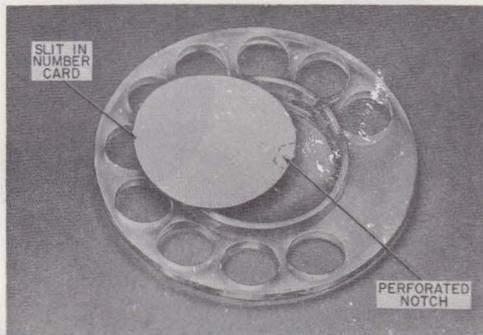
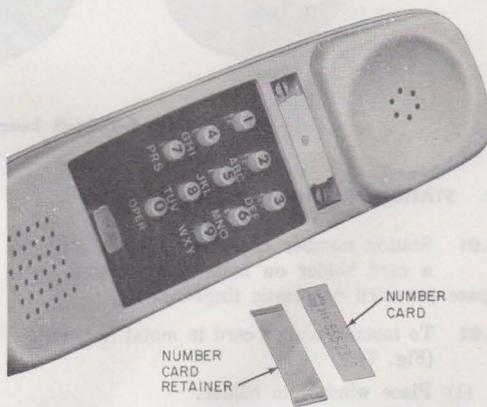

Fig. 9—Method of Placing Number Card in Current Plastic Fingerwheel
Fig. 10—Method of Placing Number Card in TRIMLINE Telephone Set
- (1) Line up slit in number card with the "V" guide on the fingerwheel (Fig. 9). Do not remove perforated notch on number card.
- (2) Push number card into place. This will force slit on card over the guide holding the number card in place.
4.05 . To install number card in TOUCH-TONE telephone sets or TRIMLINE telephone sets (Fig. 10):